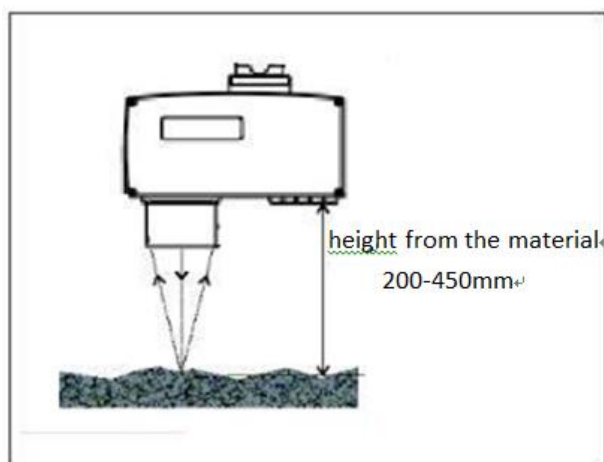

Figure 2.1 Installation height of Probe
(1) The machine should be installed in a safe position for measuring where the material to gauge will not have direct contact with the probe;
(2) Probe installation height and direction: (see Figure 2.1) The probe is to be installed over a certain material that is not fragmented as on a conveyor belt or a vibrating conveyor. Note that the material must at least demonstrate a thickness of 10mm (recommended 15mm above) in order to completely ignore the conveyor belt as a source of possible confusing effect in the background.
(3) In order to allow for a longer period of time for the material to reach a state of balance before taking measurements, the probe of the dryer or other equipment for adjustment is preferably installed as far as it can be from the steam outlet;
(4) It is a basic requirement for the production line to ensure that the material to measure embraces a certain degree of consistency and continuity in the production process;
(5) The consistency of the material has a great influence on the measurement accuracy compared with the oven drying method, especially on the latter's double-sampling deviation.